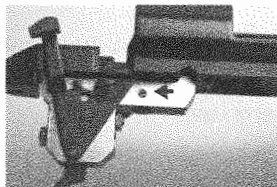

Fig 6, Lock screw
Step 10. Move the safety lever to the most rearward "Safe" position (see Fig. 6).
Step 11. Locate the locking screw on the right side of the trigger housing (see Fig. 6). Using a screw driver of the proper size, turn the screw counter-clockwise to loosen it from the mounting screw. (Backing the screw out until screw head is flush with the side of the trigger assembly housing is usually sufficient to relieve this pressure.)
Step 14. Using a screw driver of the correct size and with the safety in the most rearward "Safe" position, firmly tighten the lock screw (see Fig. 6).